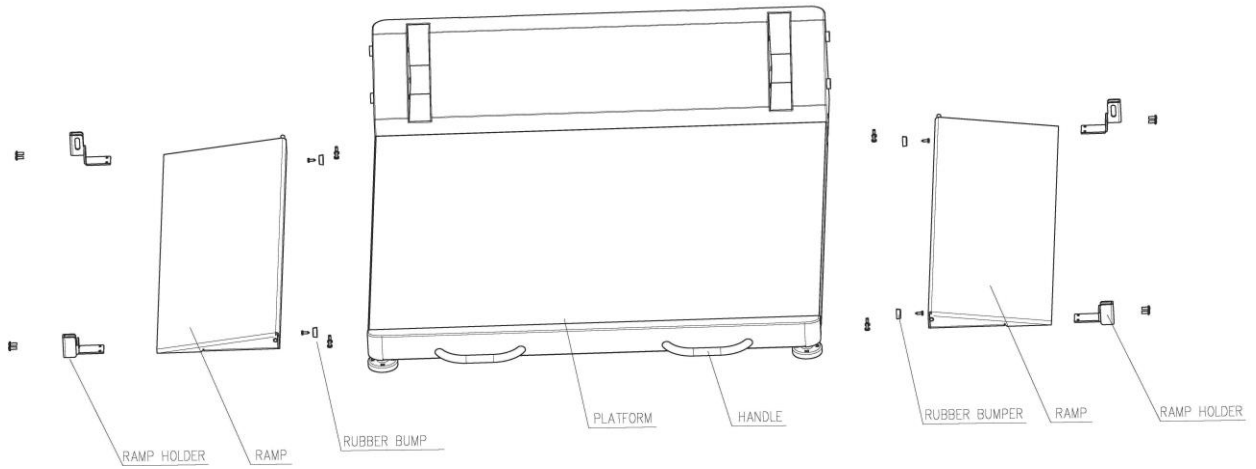

Figure 10
4. Remove the screws attaching the 2 rubber bumpers, located on the side of the platform (see Figure 10).
5. Remove the bumpers, and re-install them on the opposite side of the platform. Use the appropriate mounting holes (see Figure 10).